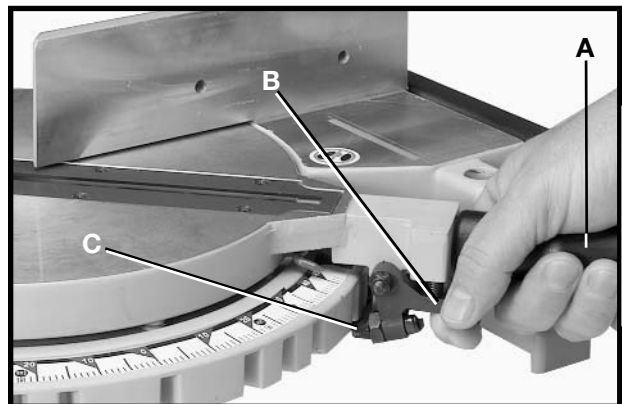

Fig. 3
Loosen table locking handle (A) Fig. 3 one turn and squeeze locking trigger (B). Rotate table until plunger (C) is engaged into the 90 degree stop (0 on scale). Tighten handle (A) clockwise.
1. Push down on handle (A) Fig. 3, to release spring pressure. Then pull out cuttinghead lockpin (B) and move cuttinghead (C) to the raised position.